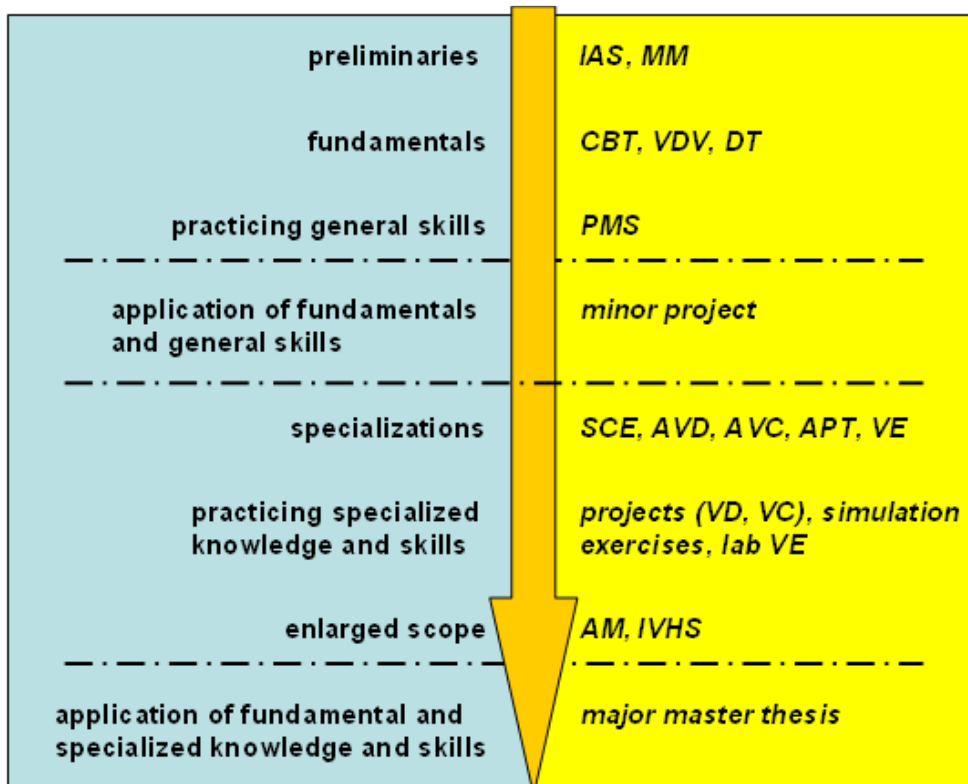

Figure 3 Vertical consistency of MAS programme
The structure of the MAS course is indicated in figure 3. That means that we first start with introduction modules, aiming at establishing a general common understanding on automotive systems (IAS), and a shared minimum level in mathematics and mechanics (MM) with focus on application.